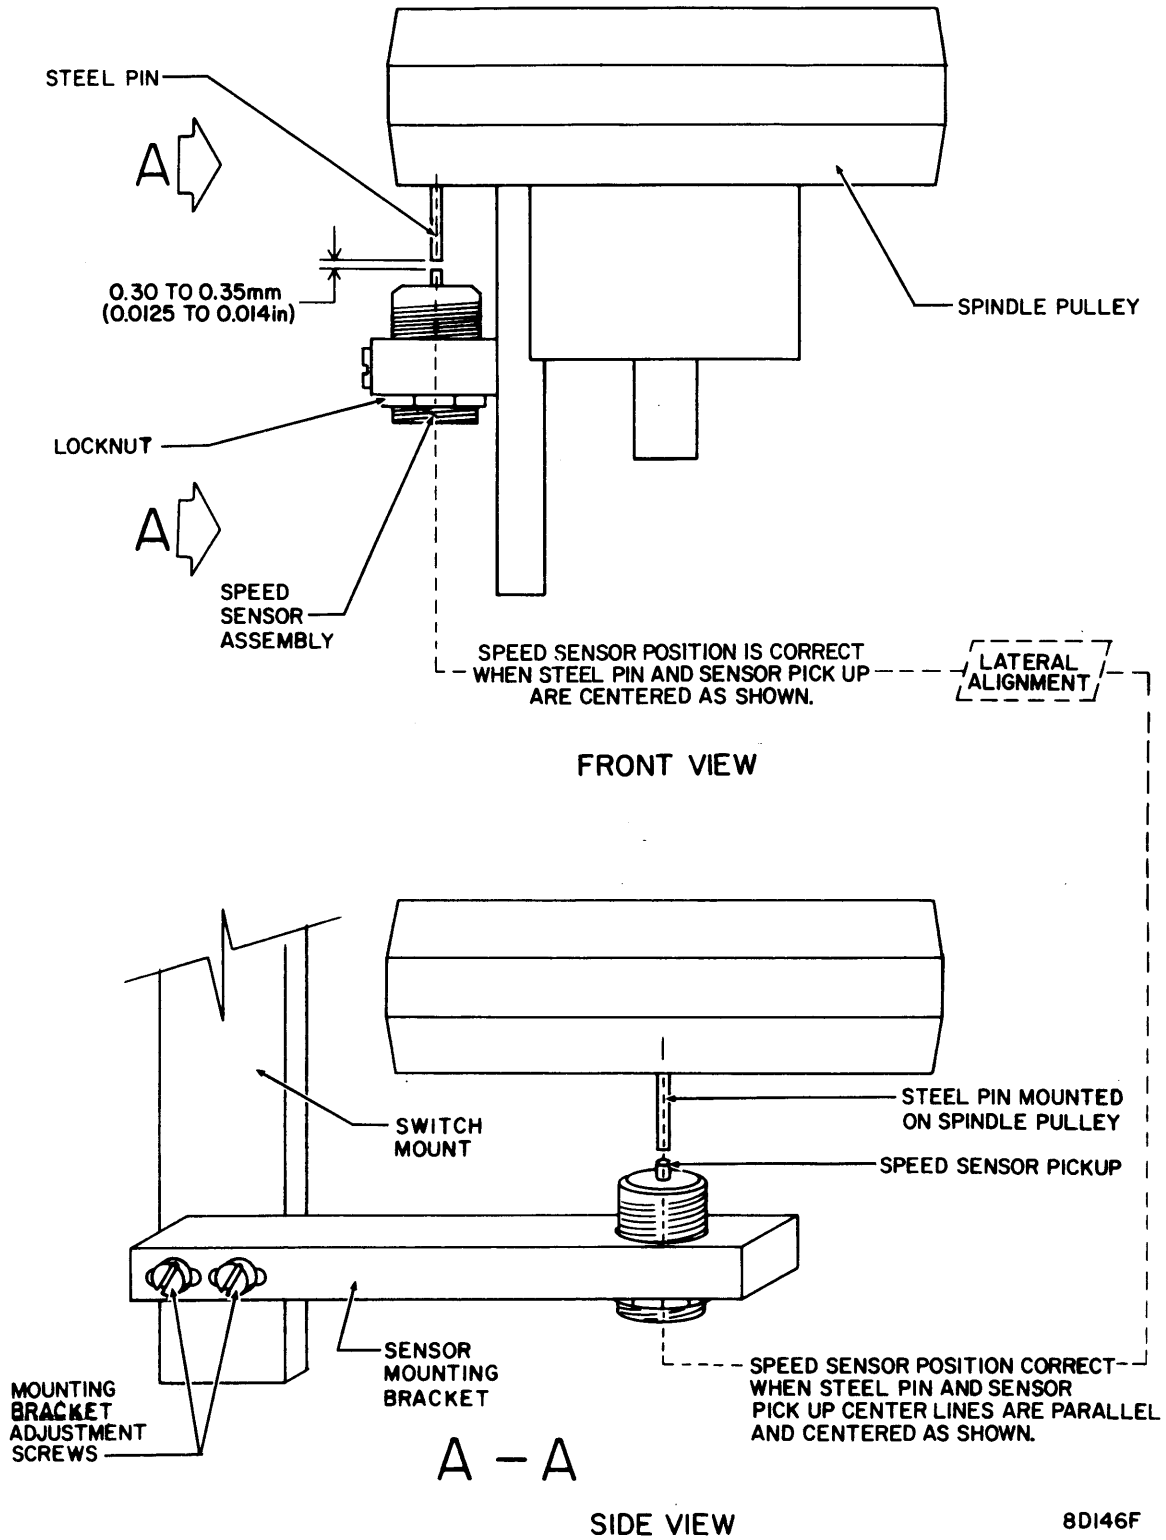

Figure 6-34. Speed Sensor Assembly Adjustment (S/C 08 and Below)
- b. If steel pin will not center over sensor tip (refer to figure 6-32) proceed to step 4. If it is centered as in figure 6-34 proceed to step 5.
4. Adjust lateral alignment as follows (refer to figure 6-34):
5. Check gap between steel pin and sensor tip as follows (refer to figure 6-34):
5. Remove hardware securing groundspring mounting bracket to pack sensor assembly mounting block (refer to figure 6-34), then remove ground spring and mounting block.